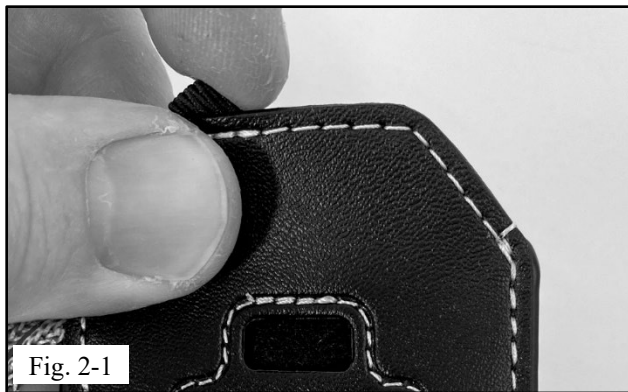

Fig. 2-1
- (a) Pull Elastic tab to left side of glove. (Fig 2-1).